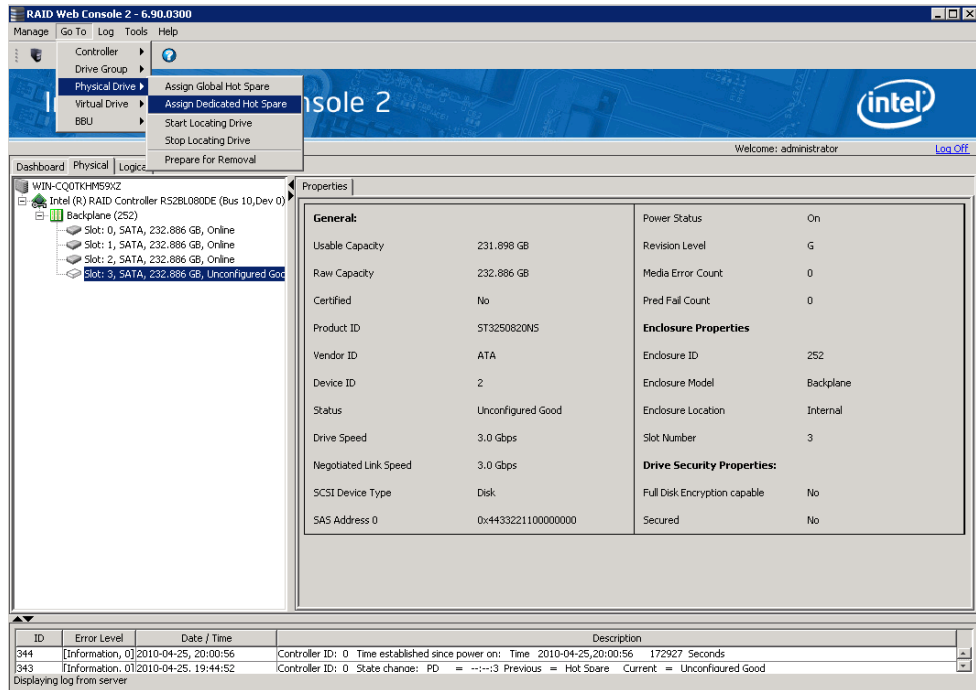

Figure 65. Assign Dedicated Hotspare
2. In the Menu, click the **Go To -> Physical Drive** tab and select **Assign Dedicated Hot Spare**, as shown in Figure 65.